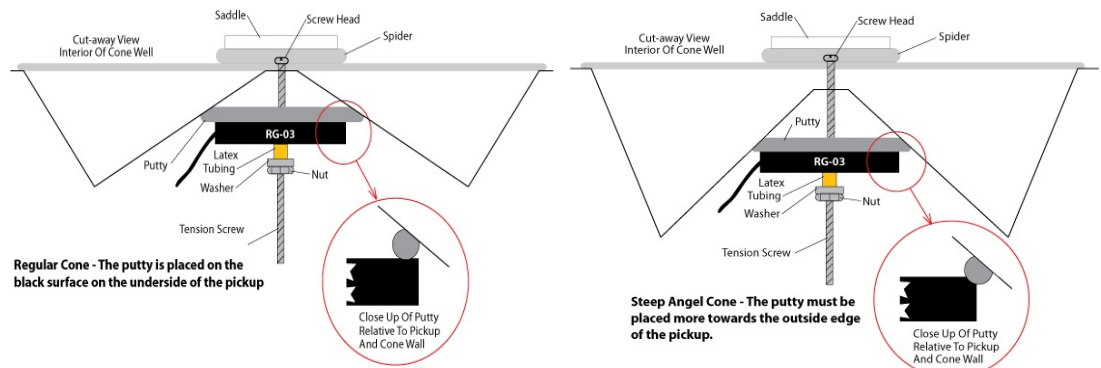

fig 2
- 4) The rubber tubing is supplied longer than is necessary so that it will fit all installations. We want the tubing to stick up above the pickup by about 1/8". Take a pen and draw a line on the tubing at a point 1/8" above the top of the pickup. Remove the tubing and cut on that line. Reinstall the tubing on the mounting screw making sure to get it down as close to the bottom of the mounting screw as before. Reinstall the pickup. See fig 2